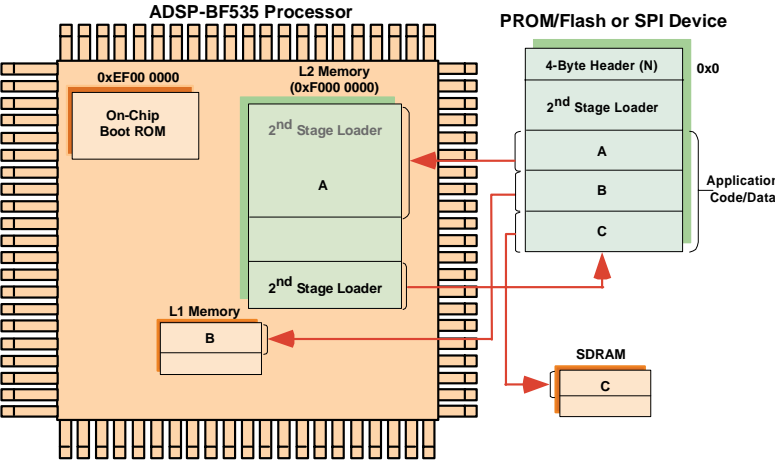

Figure 2-5. ADSP-BF535 Processors: Booting Application Code
- 3. The second-stage loader downloads the application code and data into the various memories of the Blackfin processor (Figure 2-5).